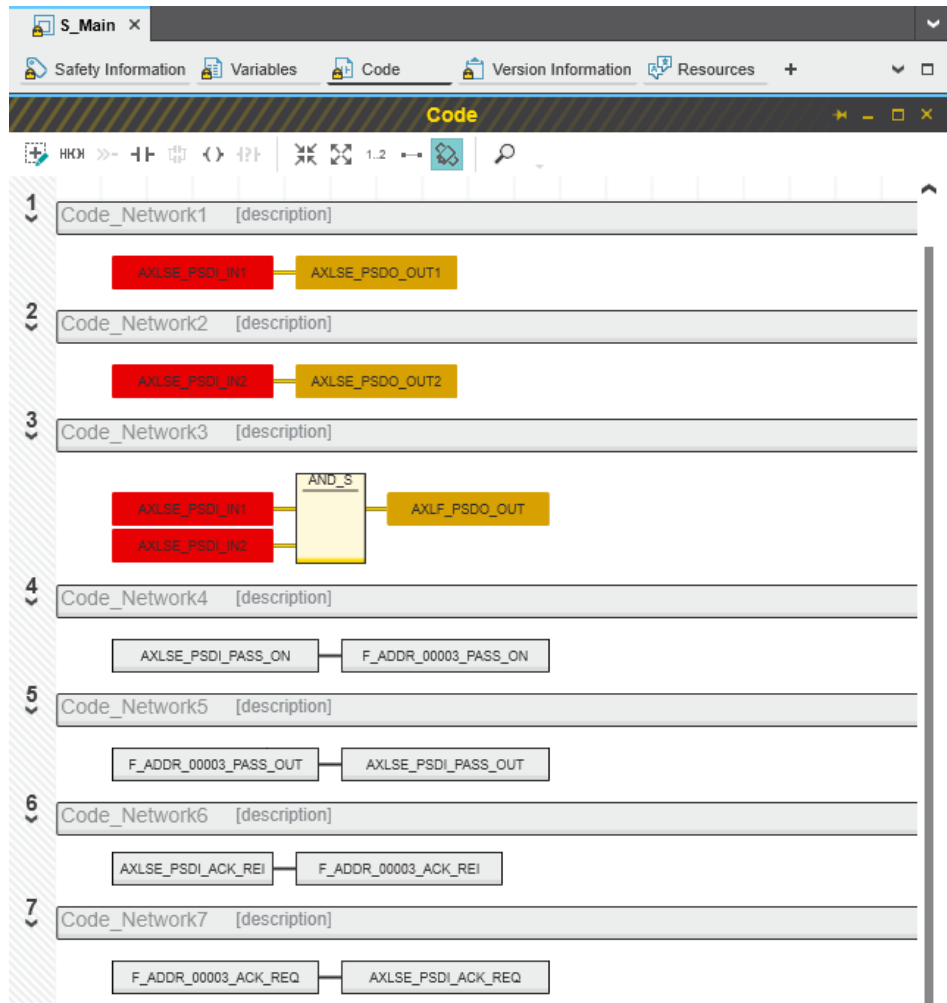

Figure 6-38 Safety-related example program with errors displayed
The safety-related example program in Figure 6-38 on page 111 includes the following functions:
- Create the program as shown in Figure 6-38 on page 111.
The errors and warnings shown in Figure 6-38 on page 111 (color-coded input and output variables in networks 1 to 3) are due to the fact that no process data has yet been assigned to these variables. You will execute this step in the following section.